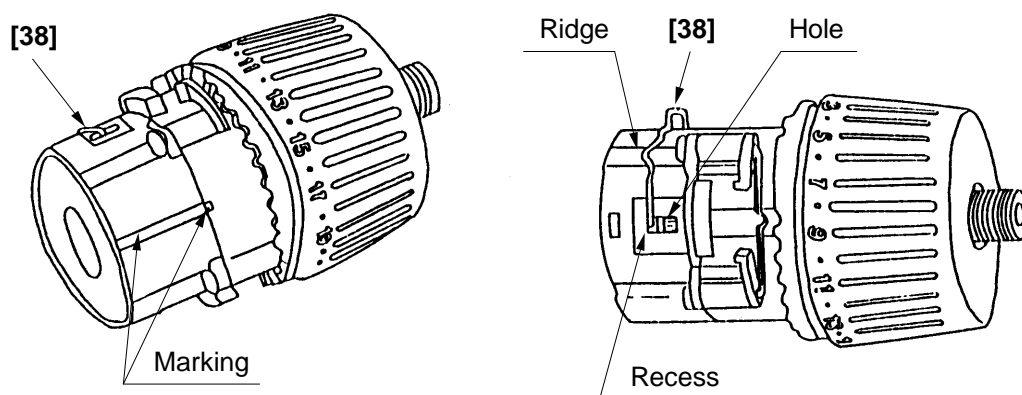

Fig. 15
- (ii) Install the Front Case [9] and Rear Case [17] together with the marking on the Front Case [9] aligned with the Rear Case [17] marking. (See Fig. 15)